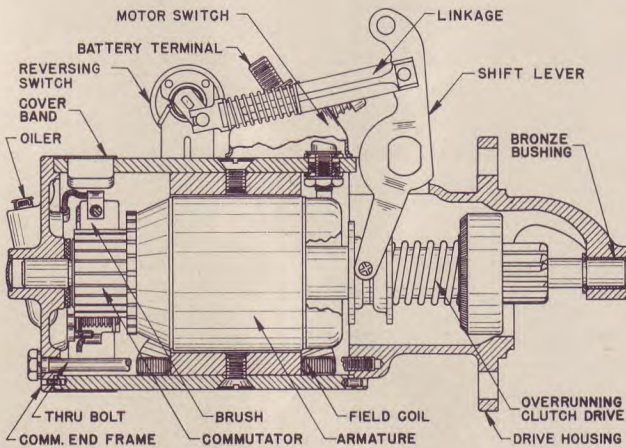
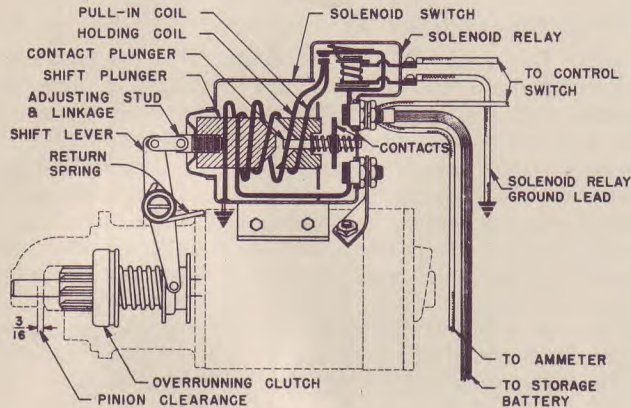

FIGURE 4-1
FIGURE 4-4
ing motor must be used and the switch used must have contacts of adequate size to carry the current without burning. The manually operated switch (Figure 4-1)
**Overrunning Clutch Drive.** Regardless of whether the overrunning clutch type cranking motor is operated by a manual switch and shift (Figure 4-1) or by a solenoid switch and shift (Figure 4-4), the operation of the overrunning clutch is the same. In either case the shift lever moves the clutch assembly on the splined section of the armature shaft, shifting the pinion into mesh with the flywheel teeth. As the shift lever reaches its limit of travel, it closes the cranking motor switch contacts. Occasionally instead of meshing, the pinion teeth and flywheel teeth butt. When this happens, the clutch spring compresses and when the switch contacts close, the cranking motor armature turns only enough to align the teeth before full meshing takes place and cranking is accomplished.
Where the overrunning clutch shift is solenoid operated (Figure 4-4), the clearance between the pinion and the housing should be checked when the pinion is in the operating condition. This clearance should be 3/16" and is adjusted by turning the stud in the solenoid plunger in or out as required.